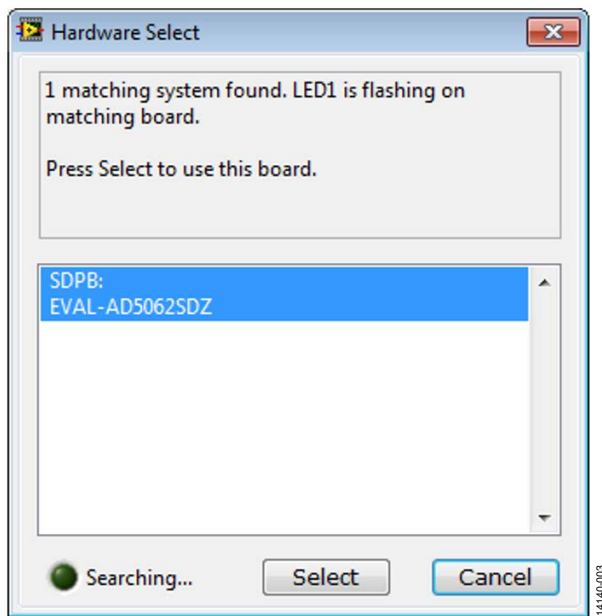

Figure 3. Connection Message
3. Click **Start > All Programs > Analog Devices > AD506x Evaluation Software** The software will identify the board connected to the SDP-B and display the board name, as shown in Figure 3.